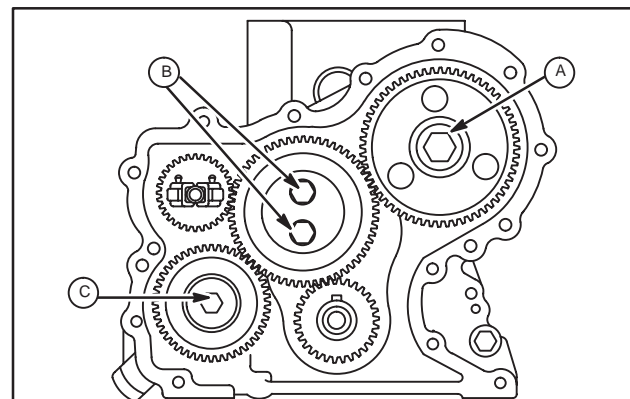

Fig. 20 – Torque Screws
6. Torque screws as shown, Fig. 20.